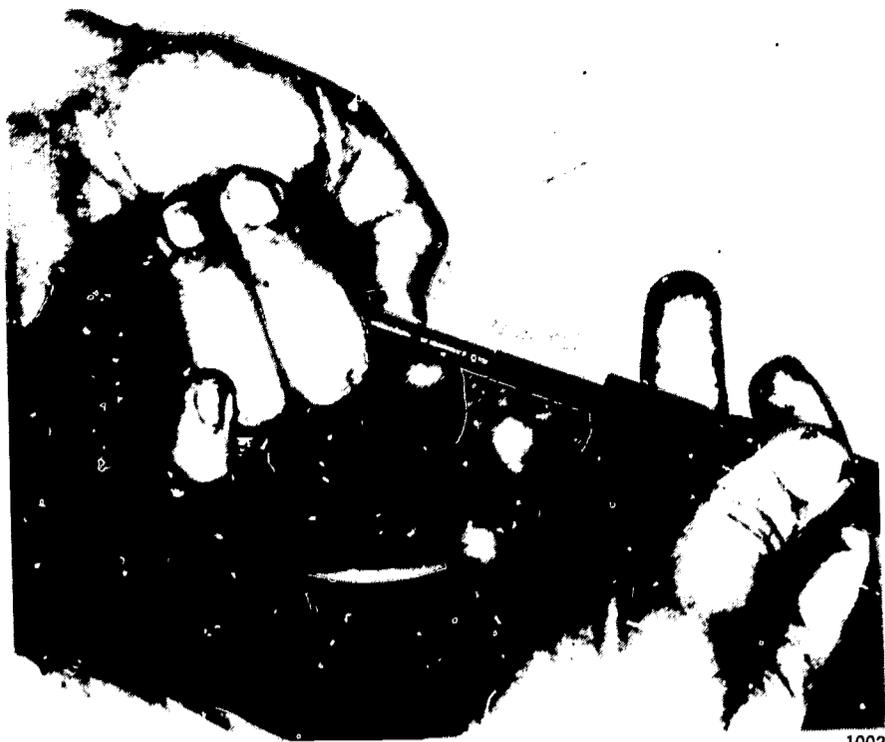

FIGURE 220. Measuring valve length with a micrometer.
8. Measure the length of the valve with a large micrometer (Figure 220).